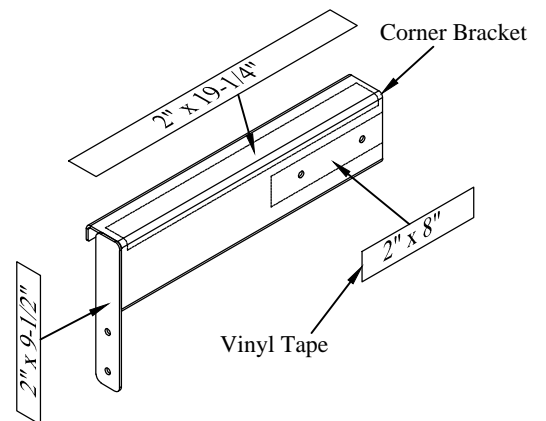

Figure 7: Vinyl tape locations.
2. **Apply** the vinyl tape to the corner brackets as shown (Figure 7).